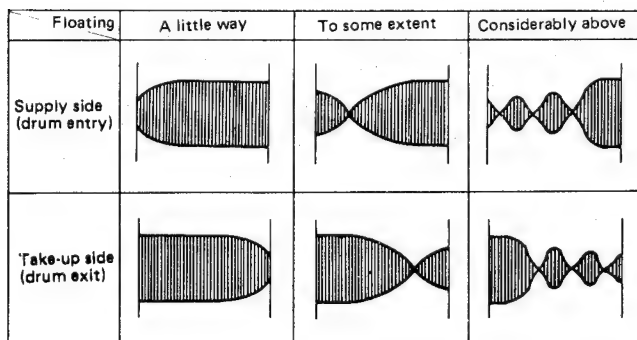

Figure 29
3. Adjust the height of the guide rollers while watching the envelope so that the tape runs along the drum lead. Whether the video tape is above or below the helical lead will be shown in the waveform represented by the envelopes in Figures 29, 30.